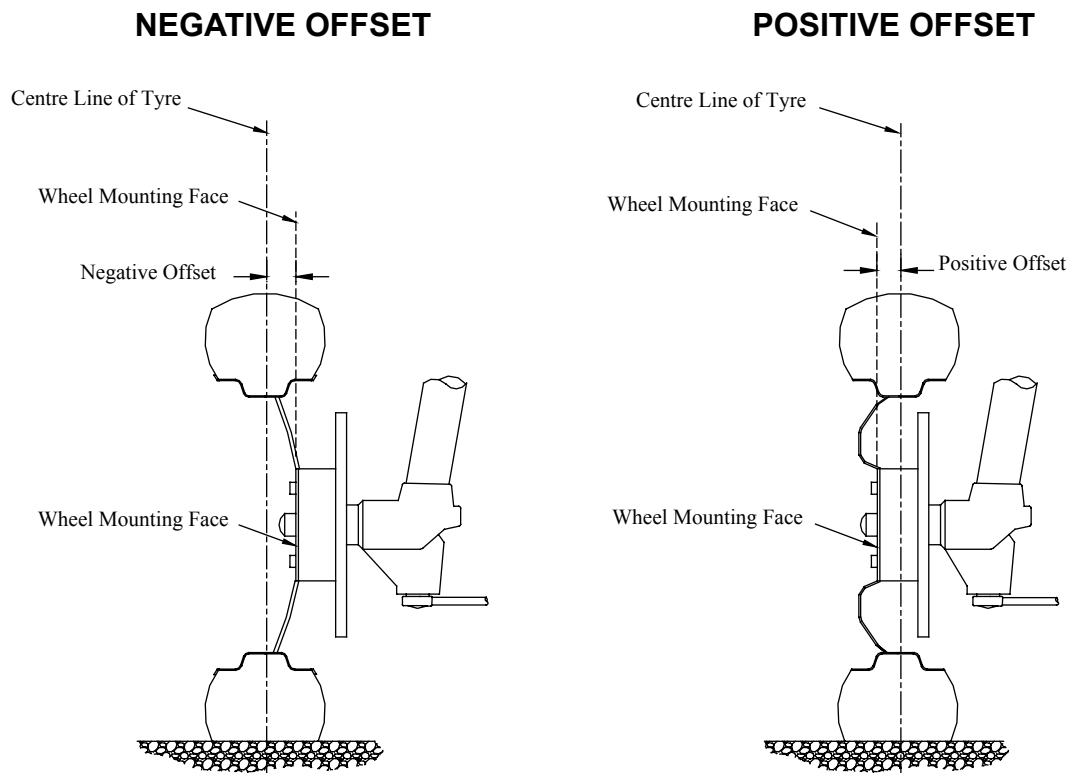

Figure 1
* Note: Positive rim offset is when the centre line of the rim is inboard of the wheel mounting surface (ie original equipment rims) see Figure 1, Appendix (a).